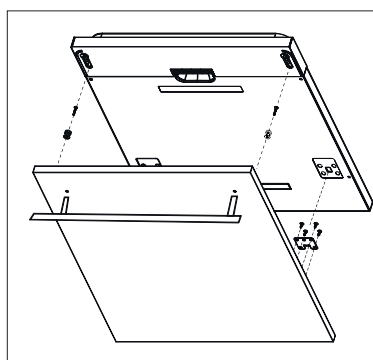

Fig. 14a
- Put the cover plate on the door of the dishwasher (Fig. 14a).